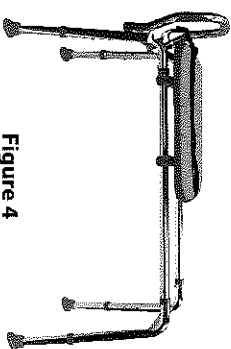

Figure 4
8. Next, insert the 4 legs (Part E) into the leg frames (as shown in *Figure 4*). Set the bench height by using the same button-hole location for each leg. Make sure the buttons snap firmly into place. **For your safety, adjust the rubber tips on the legs by turning them outward for maximum floor contact.**